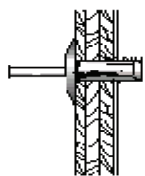

Figure 2
- Insert drive rivet into the 6mm mounting hole (Fig 2).